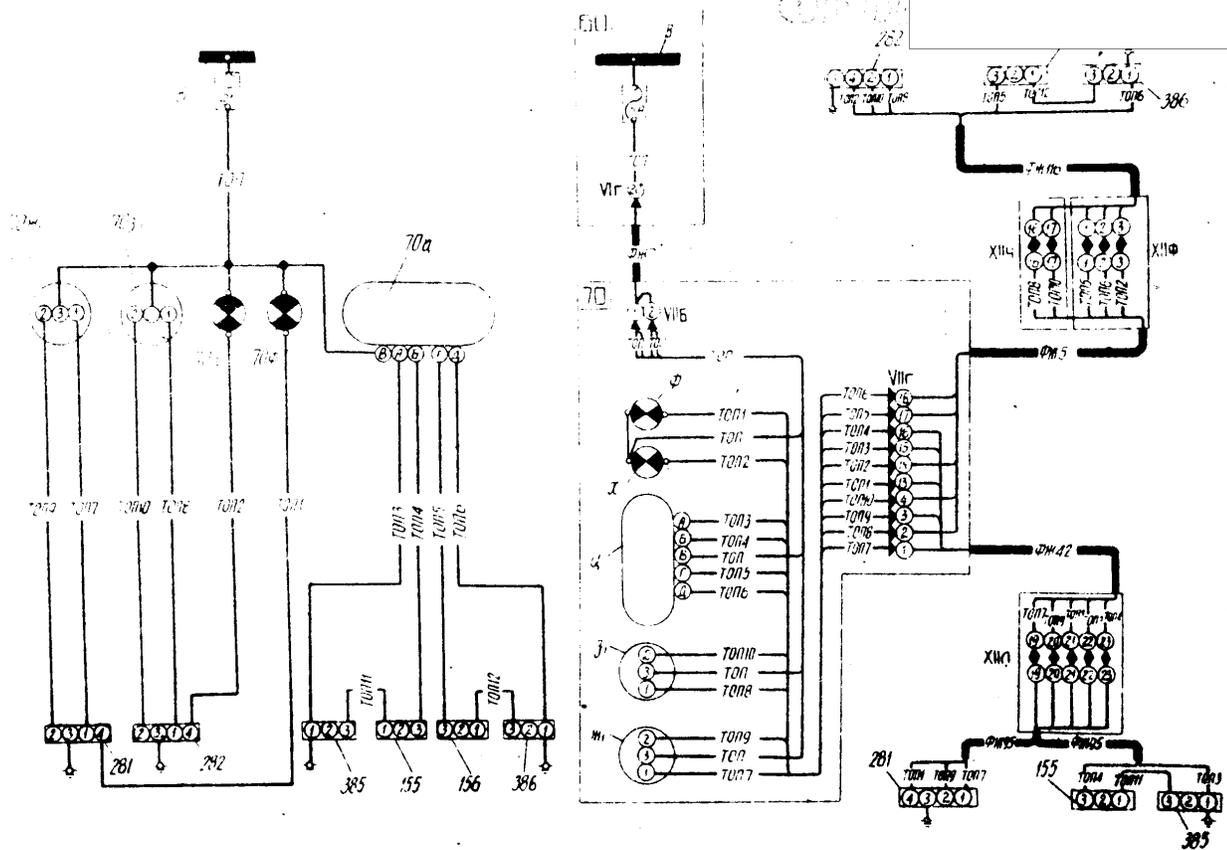

Fig. 105. Principal and assembly diagram of the fuel meters, CR3C-1147.
- the auto-pilot /fig. 105 - 107/